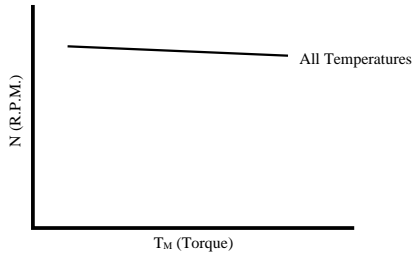

Fig. 3. r_1 Temperature Characteristics = r_a Temperature Characteristics
R_a is the copper coiled resistor of the motor and has the temperature characteristics of + 3,900 r.p.m/°C. Therefore, it is necessary to set the value of r_1 so that the relationship in the expression (7) will be satisfied at the minimum working temperature. The diffusion resistance r_3 / r_2 in the IC has the flat temperature characteristics, and if the temperature characteristics of r_1 is adjusted to that of R_a , + 3900 r.p.m/°C, the value of the second term ($r_1 r_2 / r_3 - R_a$) of the expressions (4) and (5) shows the flat temperature characteristics and the torque characteristics of the motor speed becomes constant without depending on a temperature. Fig. 2 and Fig. 3 show this relationship.